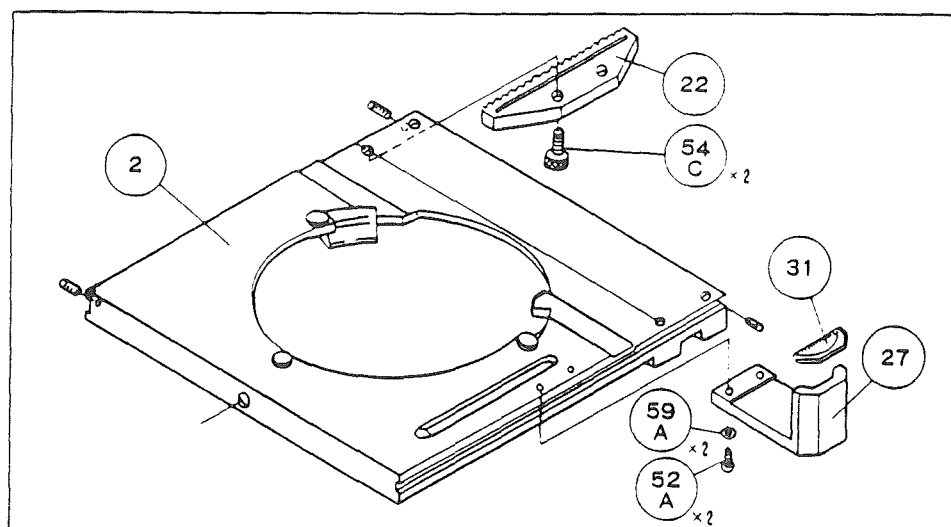
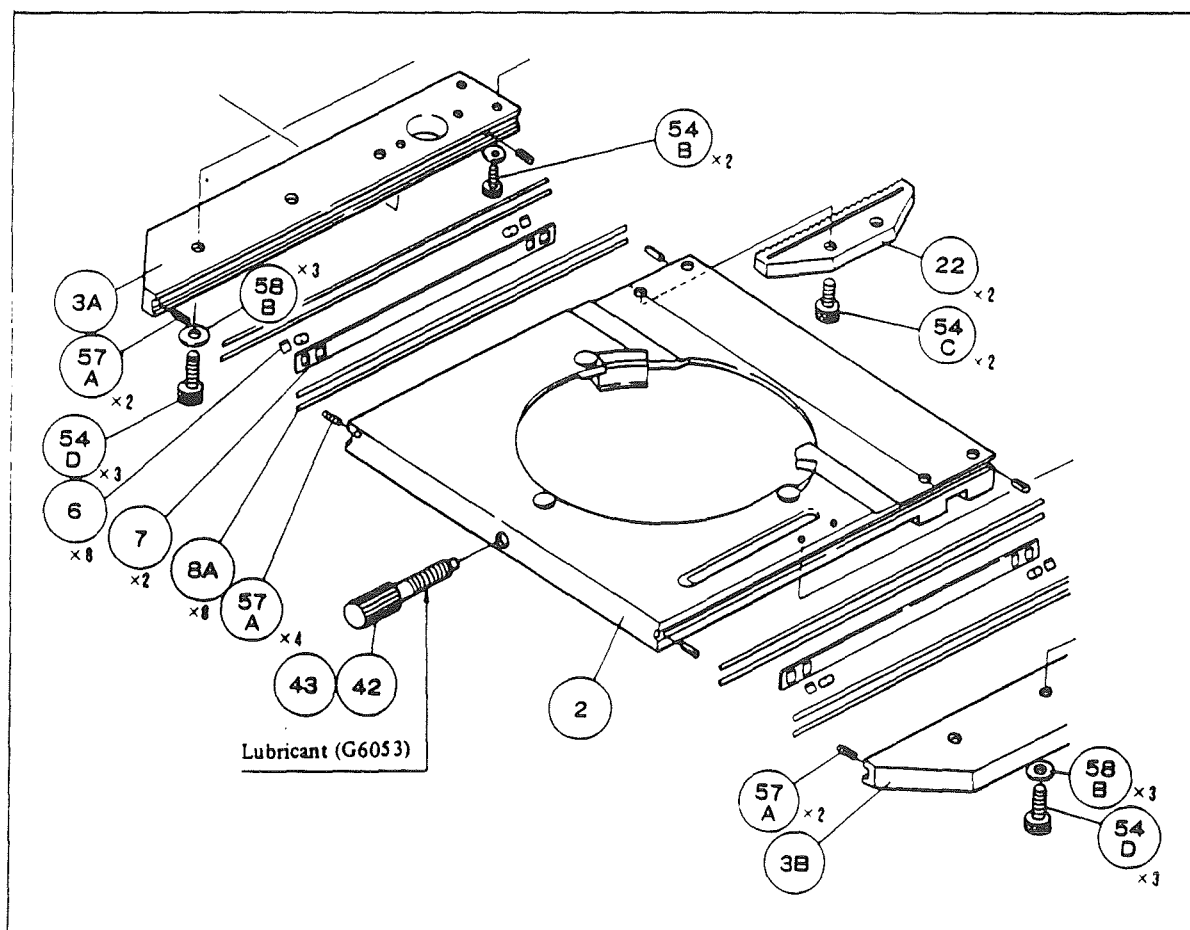

Fig. 4
Fig. 5
- 4) Releasing the screws 54C x2, remove the rack 22 (Fig. 4).
- 14) Releasing the screws (52A) x2, separate the vernier scale seat (27) from the stage base plate (2). (Fig. 4)
- 15) Releasing the screws (54B) x4 separate the X guide block (4) from the Y guide blocks (3A), (3B). At the same time the X block (5), the rollers (6) the retainers (7) and the guide rails (8B)(8C) are also separated.
- 16) Remove the X rack (23) from the X block (5).
- 17) Separate the guide block either (3A) or (3B) from the stage upper plate (1). Then the stage base plate (2) the rollers (6), the retainers (7) and the guide rails (8A) becomes free. (Fig. 5)
< Reassembling the X and Y Movement > (Fig. 5, 6) .